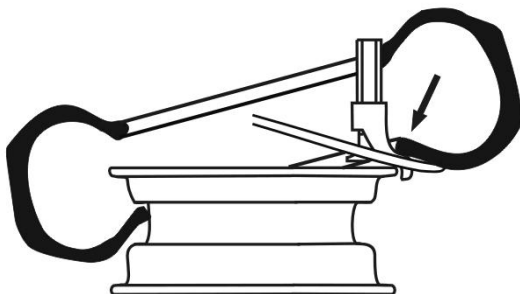

Fig.20
- Lift wheel, make the bottom edge of wheel as fig.20) .